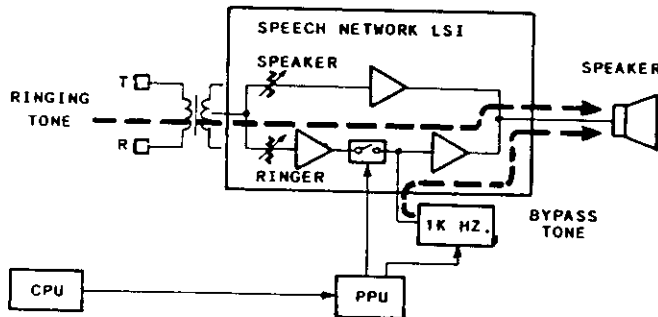

FIGURE 6-34 STATION AT RINGING
Circuit Operation: The key telephone block diagram related to ringing is illustrated in Figure 6-34.
- The above input signals are connected to speaker amplifier through analog switches in Speech Network LSI under command of the Station PPU as shown in Figure 6-34.